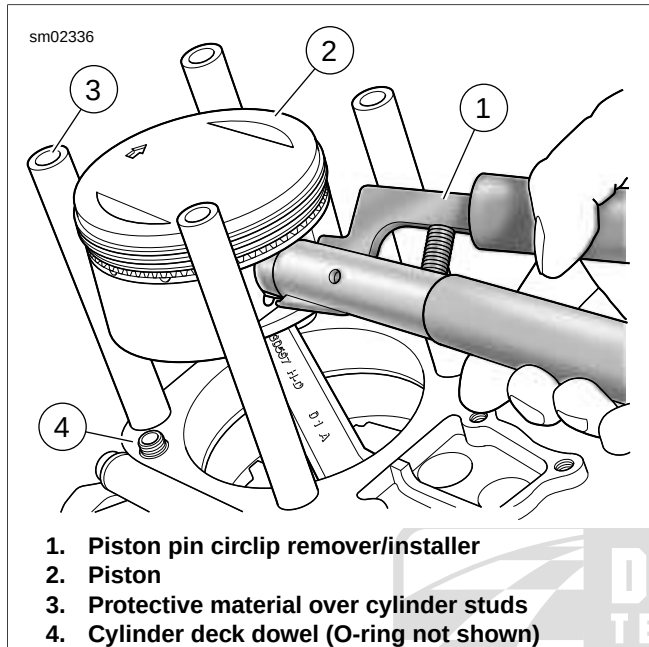

Figure 3-23. Piston Pin Circlip Removal (Part No. HD-42317)
6. See Figure 3-23. Remove o-ring from dowel pin (4) on base of cylinder deck. Discard o-ring.
2. See Figure 3-23. Remove the piston pin circlip.
- a. Insert the PISTON PIN CIRCLIP REMOVER/INSTALLER (Part No. HD-42317-A) (1) into the piston pin bore. Position claw on tool in slot of piston (2) (directly under circlip).